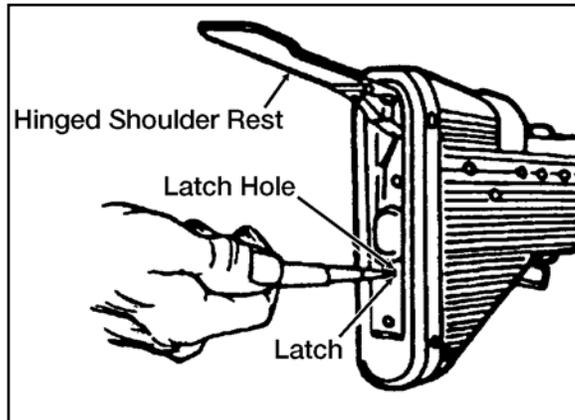

Figure 071-312-3025-1. Stock
b. Insert the nose of a dummy cartridge into the latch hole (figure 071-312-3025-1).